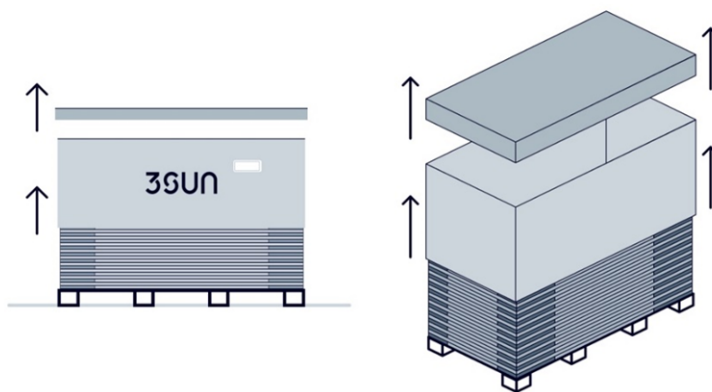

Figure 21: Removal of box cap and perimetral box.
- b) Remove the box cardboard cap and then the perimetral cardboard box (Figure 21).